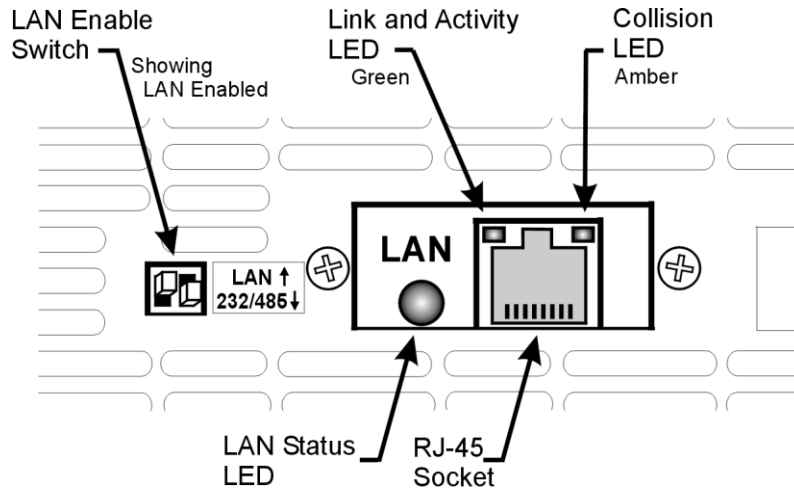

Figure 3. Rear Panel LAN Features
- B. Set the LAN card switch pin1 to DOWN (see Figure 3)
- B. Set the LAN card switch pin1 to UP (see Figure 3)